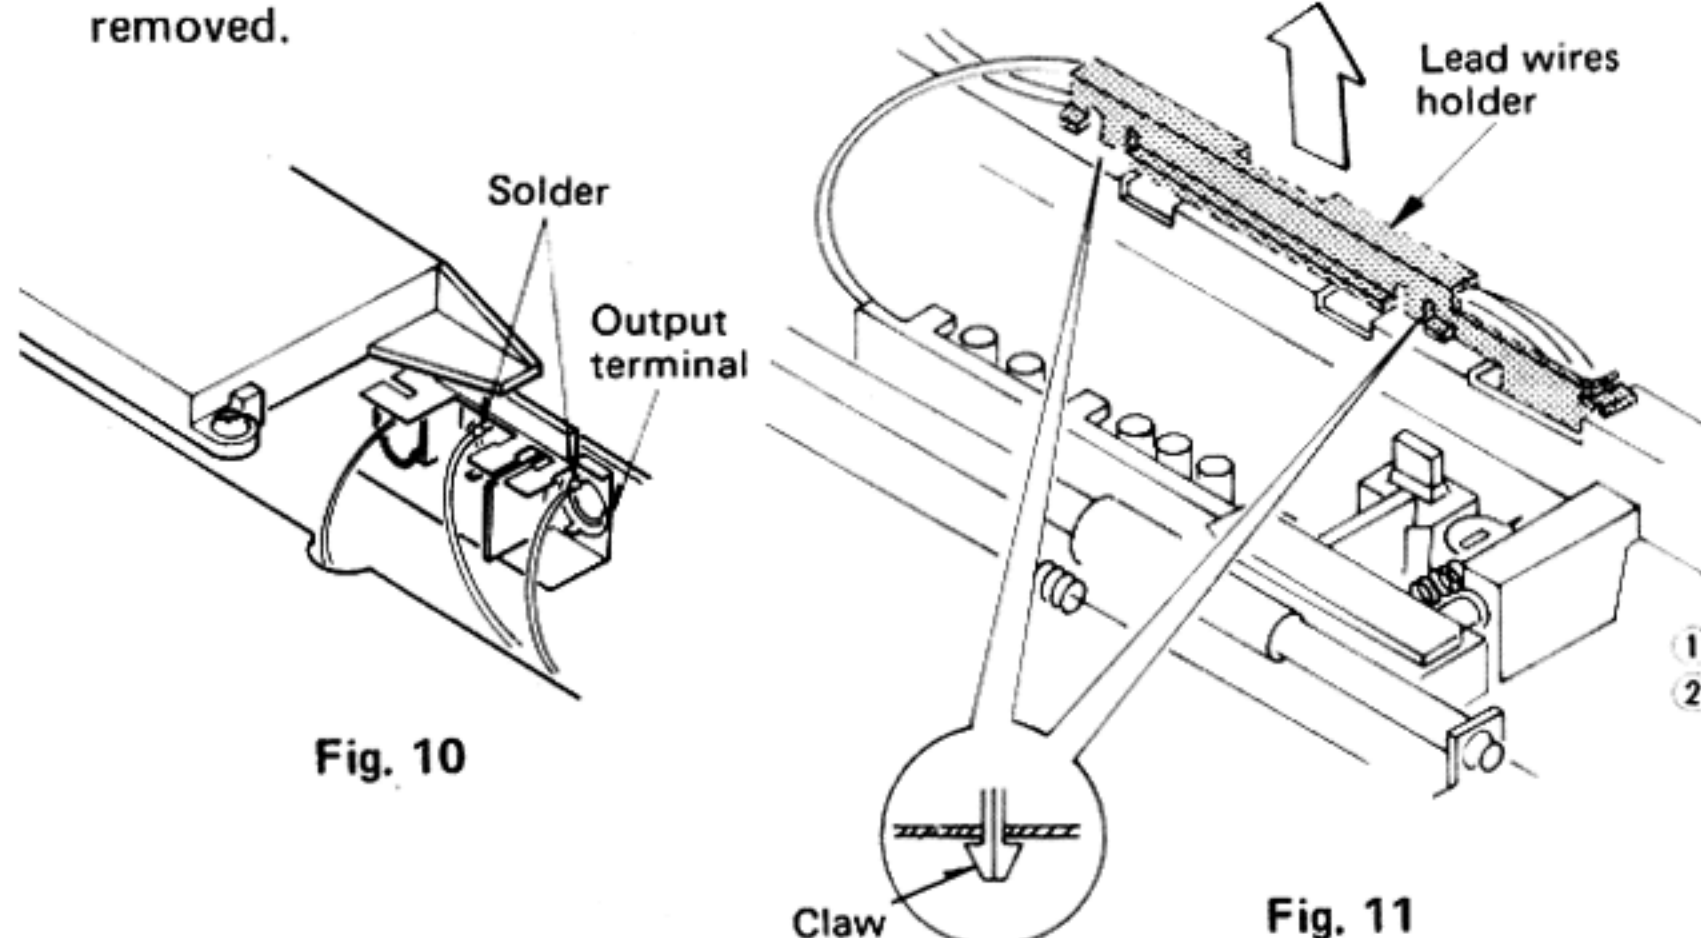

Fig. 10
3. Unsolder the 2 lead wires from the output terminal. (Fig. 10)